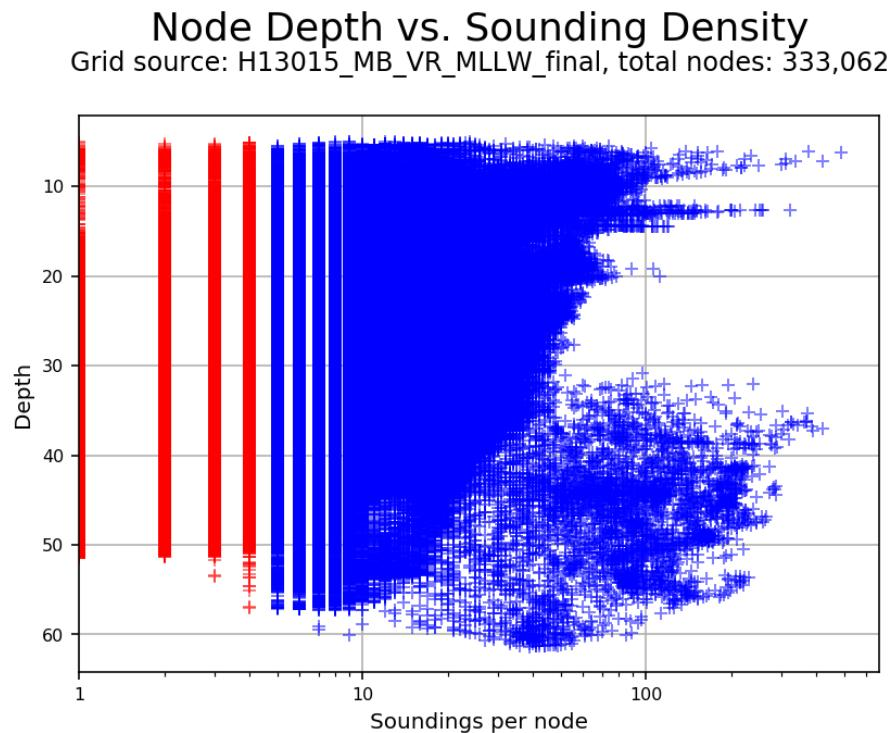

Fig. 2.33: A plot of every node represented in the surface in plotted as its depth on the y axis and its density on the x axis.
- Node Depth vs. Sounding Density (Fig. 2.33).